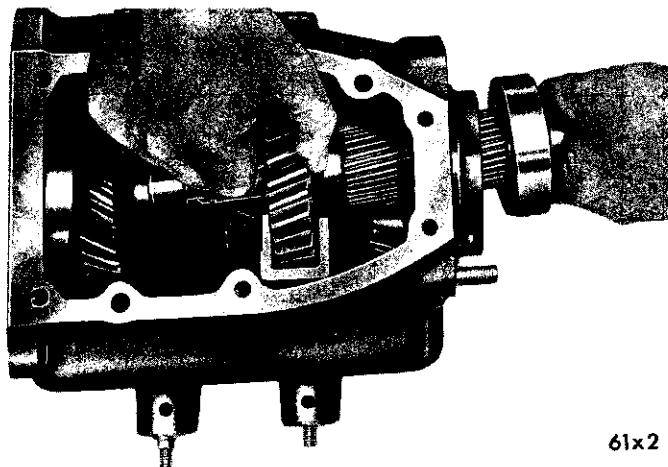

Fig. 7—Removing or Installing the Mainshaft Assembly
(7) Remove the mainshaft and bearing out through the rear of the case (Fig. 7).
(8) Remove the low and reverse shift fork from the case.